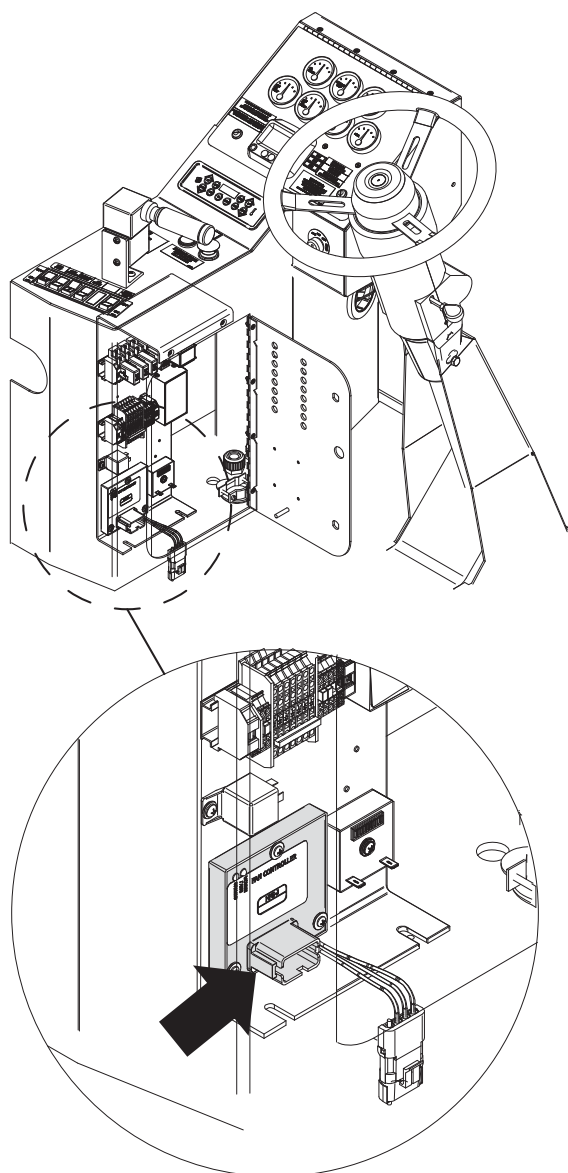

Figure 6-5 Radiator Fan Controller located in Control Console
Always disconnect radiator fan controller, hydraulic fan controller and electronic control module (ECM) before welding as damage can occur (see Figures 6-5, 6-6 and 6-7).
2. Disconnect 12 pin connector on radiator fan controller (see Figure 6-5).